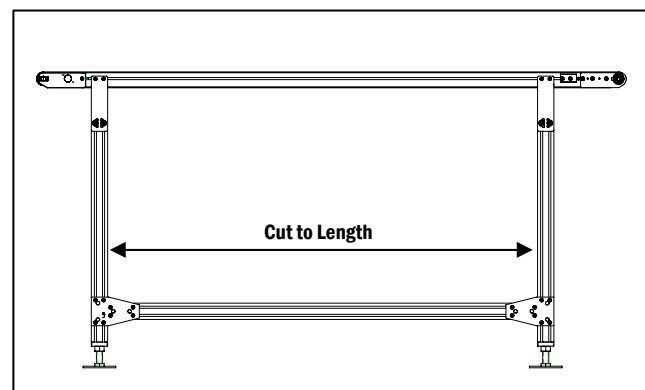

Figure 3
❷ Install the Cross Tie Extrusions
b. Measure the distance between the stands and cut the Cross Tie Extrusion to fit with a saw blade that is appropriate for cutting Aluminum (Figure 3).